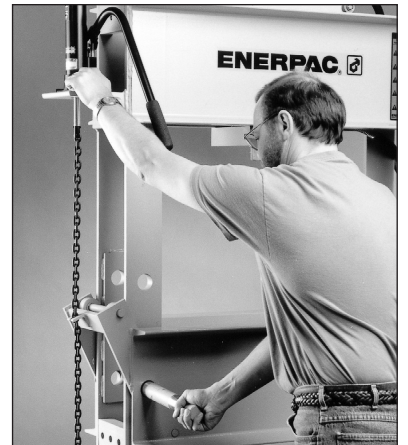

Figure 10
10. Slowly open release valve on bed lifting jack, lowering press bed until remaining press bed pin holes are aligned. Close release valve on bed lifting jack and insert bed pin. See Figure 10.